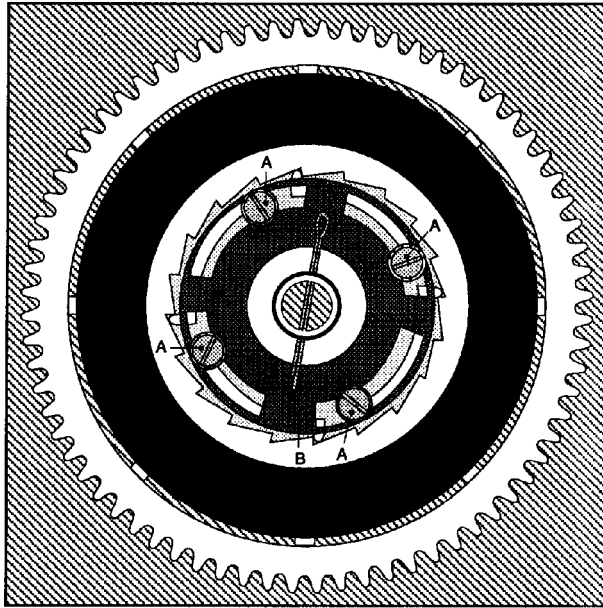

Fig. 1.
A) The four screws marked "A" are loosened in order to turn part "B" (Fig. 1.). This way distance "C" appears.